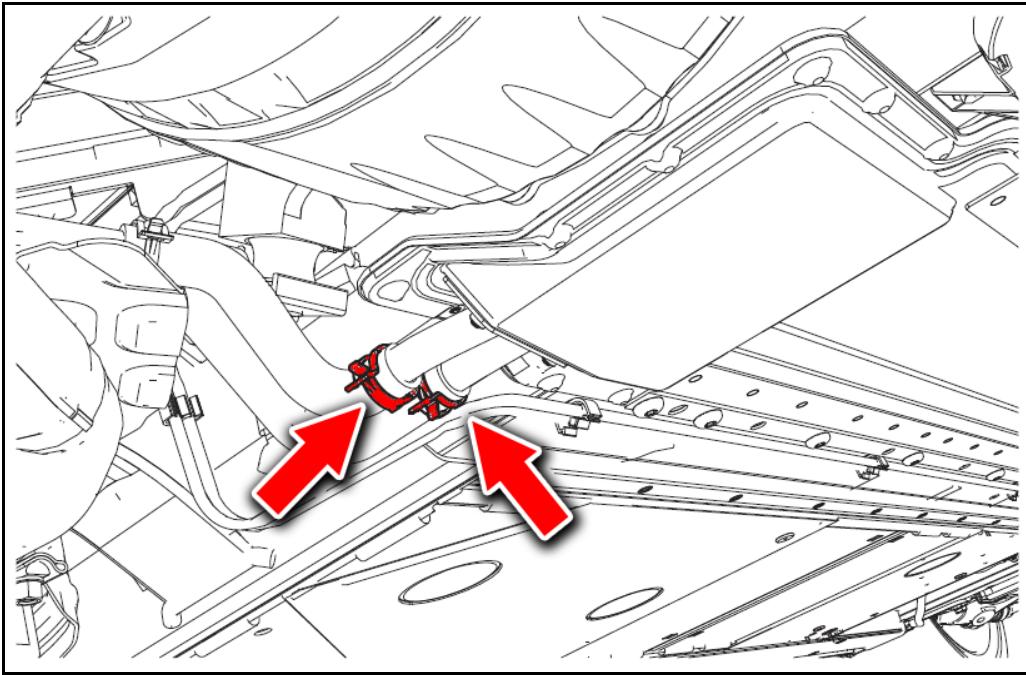

Figure 3J
3.11. To drain coolant, loosen both clamps (red arrows in Figure 3J), remove both coolant lines from the front passenger side of the HV Battery Pack. Be sure to collect the coolant for recycling and/or re-use using the proper equipment.